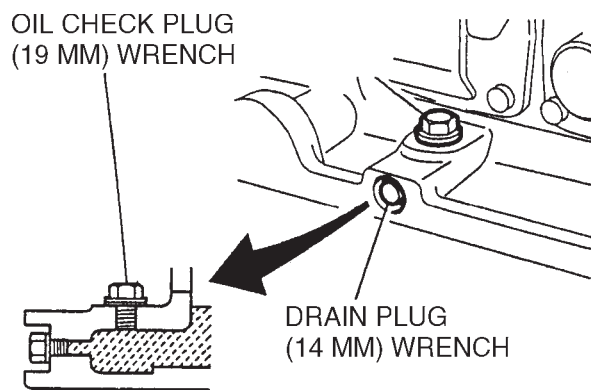

Figure 21. Vibrator Oil Maintenance
1. In every 100 hours of operation, with the machine positioned horizontally, remove vibrator oil level check plug (Figure 21) off vibrator (19 mm wrench) and see if oil is up to filler port. Be sure to clean area around check hole to prevent dirt and dust from entering.